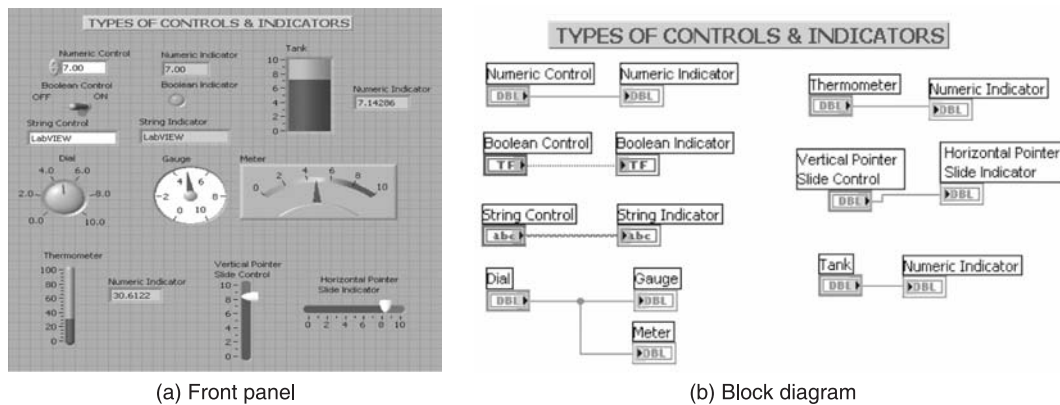

Figure P2.1
**Solution** The front panel with controls and indicators and the respective block diagrams are shown in Figures P2.1(a) and P2.1(b).